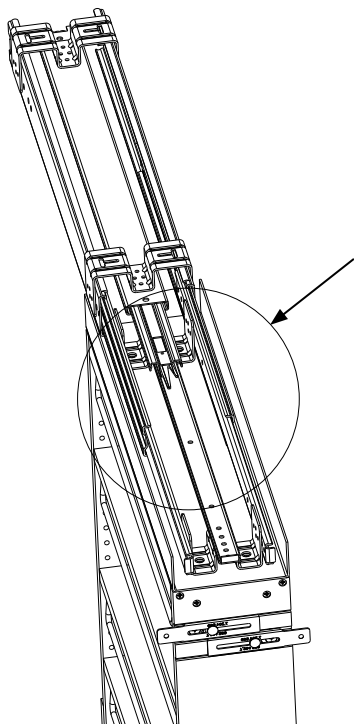
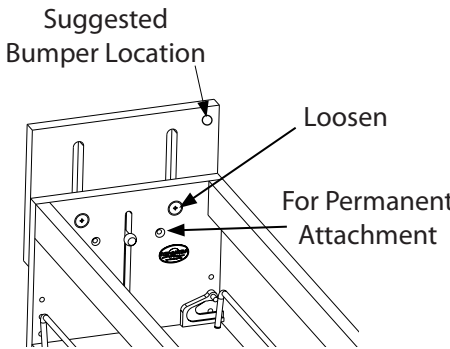

Fig 1
Fig 3
- 1) Remove cabinet member of the tri-slide from the pullout unit. It is recommended that the middle slide release be triggered first, followed by the two side slide releases. This is done by fully extending the slide (like opening the unit) and pushing the black release lever to the side. Next, slide the intermediate past the lock. Once all (3) release levers are triggered, the tri-slide unit can be removed from the pullout. (See Fig. 1 & 2).
- 2) Using the mounting template provided, pre-drill (4) holes using a 5/32" drill bit.
- 3) Attach the tri-slide cabinet member to the floor of the cabinet in the appropriate location, being sure to center the slide in the cabinet opening. Use the (4) #8 x 3/4" deep thread screws provided.
- 5) Loosen the machine screws at the top back wall of the unit to allow the rear stop to float freely. (See Fig. 3). Raise the rear stop until it catches the rear of the face frame (if frameless application, a block may need to be added to allow the stop to work properly). Once the stop is at the right height, the machine screws can be tightened. (Note: Once in place you can permanently secure the location using the pre-drilled pilot holes and the (2) #6 x 1" flat head screws provided.)